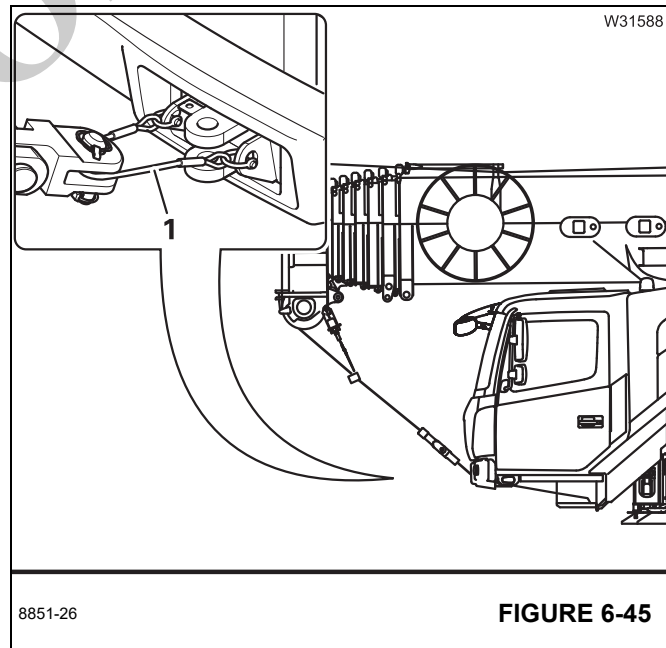

FIGURE 6-45
- Secure the hook block (1), (Figure 6-45) for transport.
- Attach the rope end clamp to the retaining rope (1), (Figure 6-45).